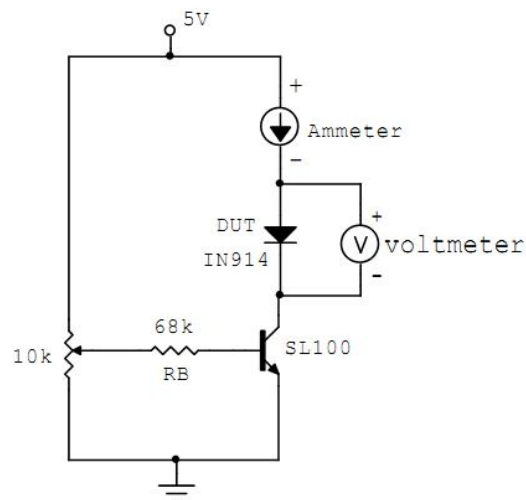

Figure 1
Background: Semiconductor devices generally exhibit highly nonlinear I-V characteristics. This means that a small change in the applied voltage could cause a large change in device current. Conversely, in certain situations, a small change in the current being forced through the device may result in a large change in the voltage across the device. Due to such rapid variations, special circuits may be required to make measurements with good resolution. In the case of a diode under forward bias, the current rises exponentially with the applied voltage and the circuit shown in Fig.1 can be used effectively for the measurements.
- 1) Wire up the circuit as shown in Fig.1 (be very careful with the transistor terminals!) and test it when the “Device under Test” (DUT) is a simple resistor, say, $1k\Omega$. Make sure that by changing the potentiometer settings, you are able to change the current through the DUT. The values of R1 (resistance between upper terminal and variable terminal of the potentiometer) and R2 (resistance between variable terminal and lower portion of the potentiometer) need to be suitably chosen. Measure the voltage across the DUT and confirm it varies linearly with the current. Check also that V_{BE} of the transistor is in the range of 0.6-0.8V. If it is not, there is something seriously wrong.